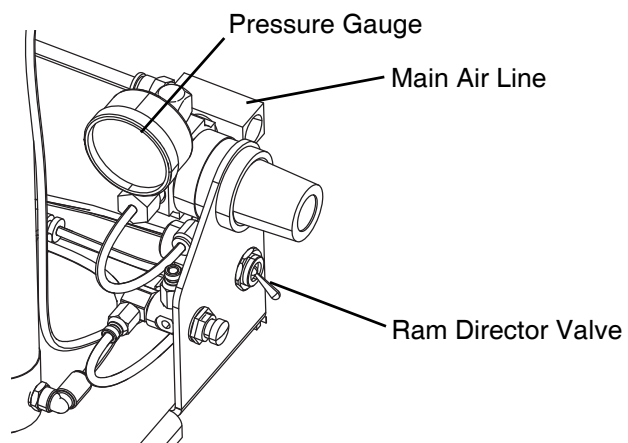

FIG. 7: Pressure Relief Components
2. Set the ram director valve on the supply pump to the down position. See Figure 7.